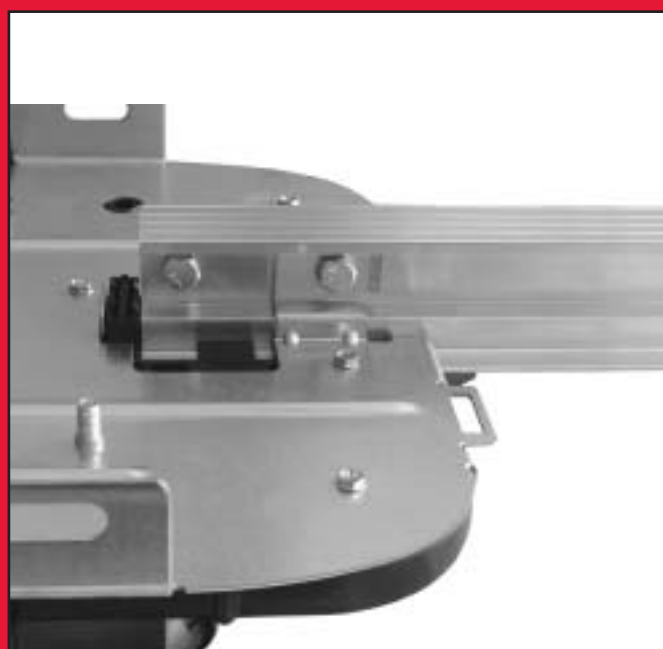

FIG. 1-4 Attach boom to power head.
- Securely fasten with 2 bolts (9) and nuts (10) (**Fig. 1-4**).